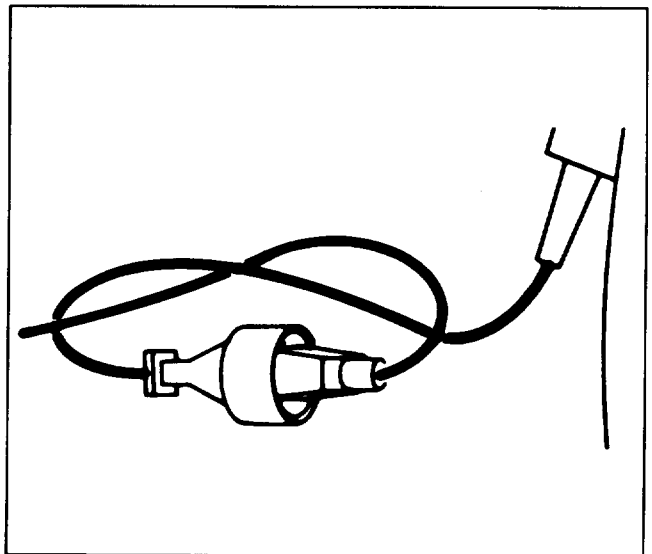

Figure 6
10. Properly connect extension cord to power supply cord to prevent disconnection of the cords (Fig. 6).
1. Secure the power supply cord and a suitable extension cord as shown in Figure 6.